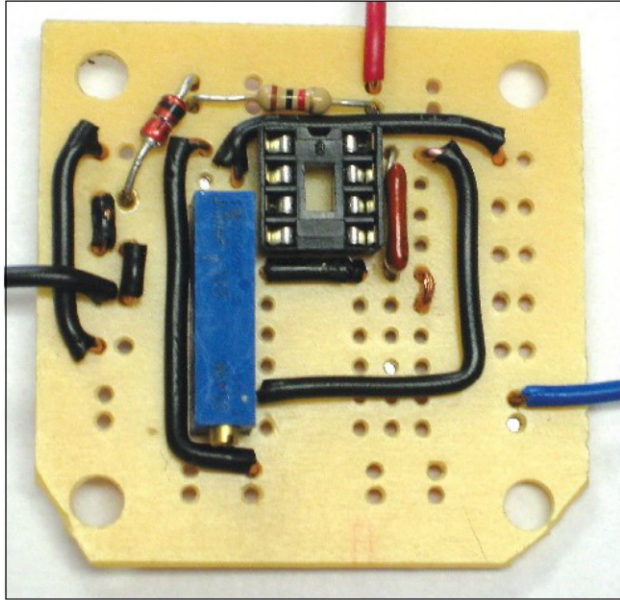

Figure 2 — All of the jumpers and the parts needed for the first test.
Because of the inexperience of the group, I decided to have them build the circuit in sections and test each stage. We started by installing R1, R2, D2, C2, the IC socket and all of the jumpers (see Figure 2). We used a socket for the op amp to be able to easily replace it, in case of a wiring error, because unsoldering an 8 pin DIP is very difficult. Notice the orientation of the circuit board, the top and bottom are not the same. The best way to tell is to look at where the blue wire is connected. We clipped the corners so it would
- In "The Uncooperative Tree" [Sep 2012, p 30-32] the value of the inductors in Figure 2 should have been shown as 33 μ H.